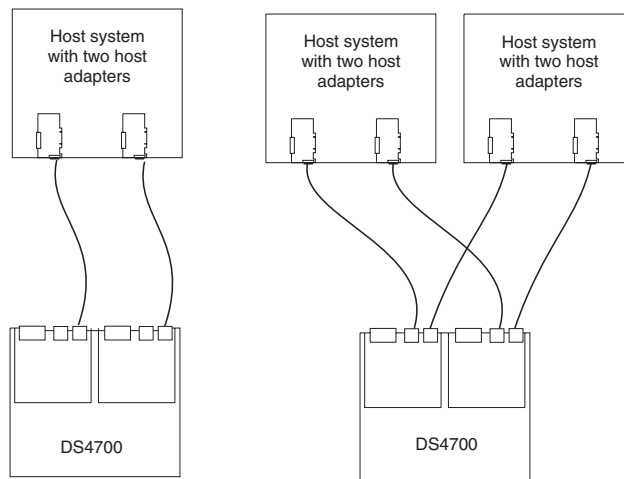

Figure 86. Examples of redundant host direct attached fibre channel configurations
- Redundant host and drive fibre channel loop configurations, as shown in Figure 86